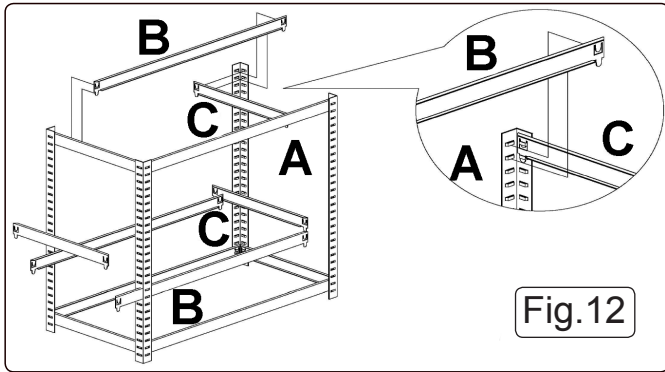

Fig.12
**See Fig.12.** Follow steps 4.2 and 4.3 to create a bottom frame with four 'A' posts attached. Using two long step beams (B) and two short step beams (C) insert a shelf support level at the top of the angle posts (A). Tap the beams at either end, close to each angle post to ensure that the tabs are seated in the slots. Insert another shelf support level at the desired height within the frame using additional long and short step beams and ensure that the tabs are seated in the slots.